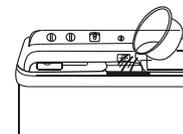

Figure 2
(2) Set the water level adjusting lever to needed line. (Figure 2)
2. Fill the water and add the dissolved washing powder to make the water level reach the preset position. (Figure 2)